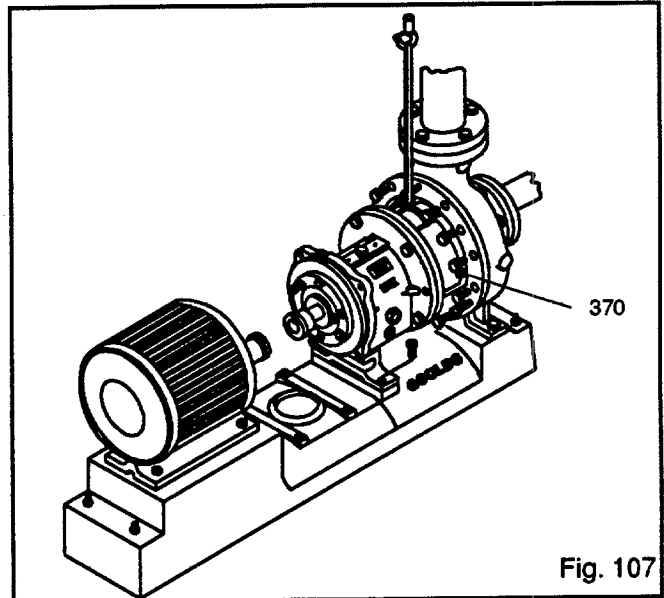

Fig. 107
4. Install casing bolts (370), finger tight. Casing bolts (370) may be coated with anti-galling compound to aid disassembly. Tighten the casing bolts per Table 9 torque values, page 51. Install casing jack screws (418), snug tight (Fig. 107).